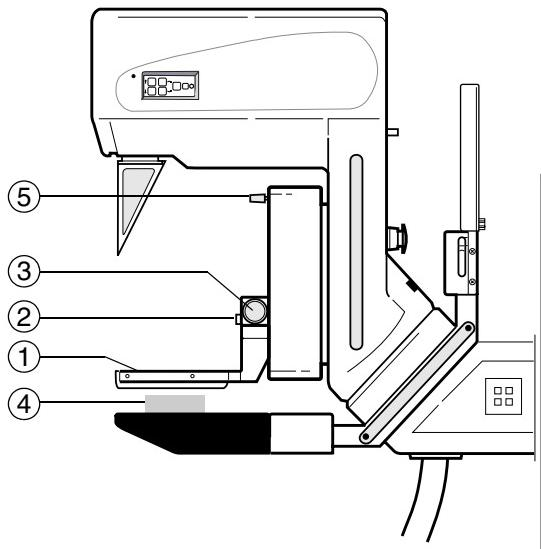

Fig. 10 Swivel arm system
1. Attach the compression plate (1/Fig. 10) if you have not already done so.
2. Check that the compression plate cannot be removed without pressing the compression plate release button (2/Fig. 10).
3. Check the function of the knobs for manual compression/decompression (3/Fig. 10).
4. Place a piece of soft material on the object table, for example a rolled up towel or a piece of foam rubber (4/Fig. 10).
7. Set the compression to **7 kg** by using the presetting knob (5/Fig. 10).
2. Set the compression force to **20 kg** by using the presetting knob (5/Fig. 10) and compress.
The compression movement must be interrupted by OPCOMP before **20 kg** is reached, i.e. at **5-15 kg** depending on the material (4/Fig. 10) used.